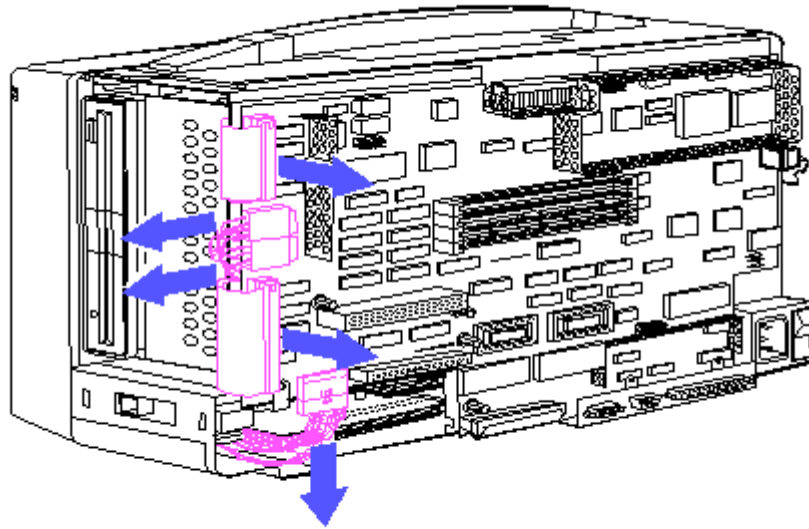

Figure 8-39. Disconnecting the Drive Cables
5. Disconnect the following cables (shown in Figure 8-39) from the system board: